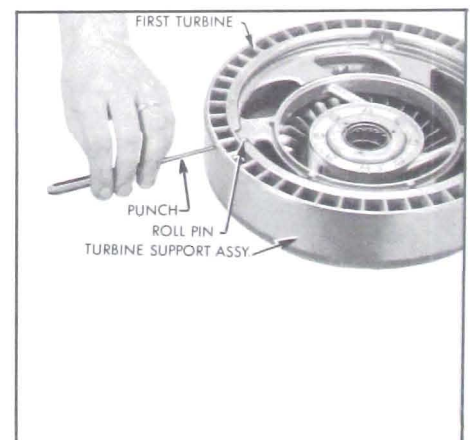

Figure 5-43—Driving in First Turbine Support Pins
1. Drive the three roll pins holding the first turbine blades to the turbine support "in" approximately 1/4" using a 1/8" punch. It is not necessary to remove the pins. See Figure 5-43.